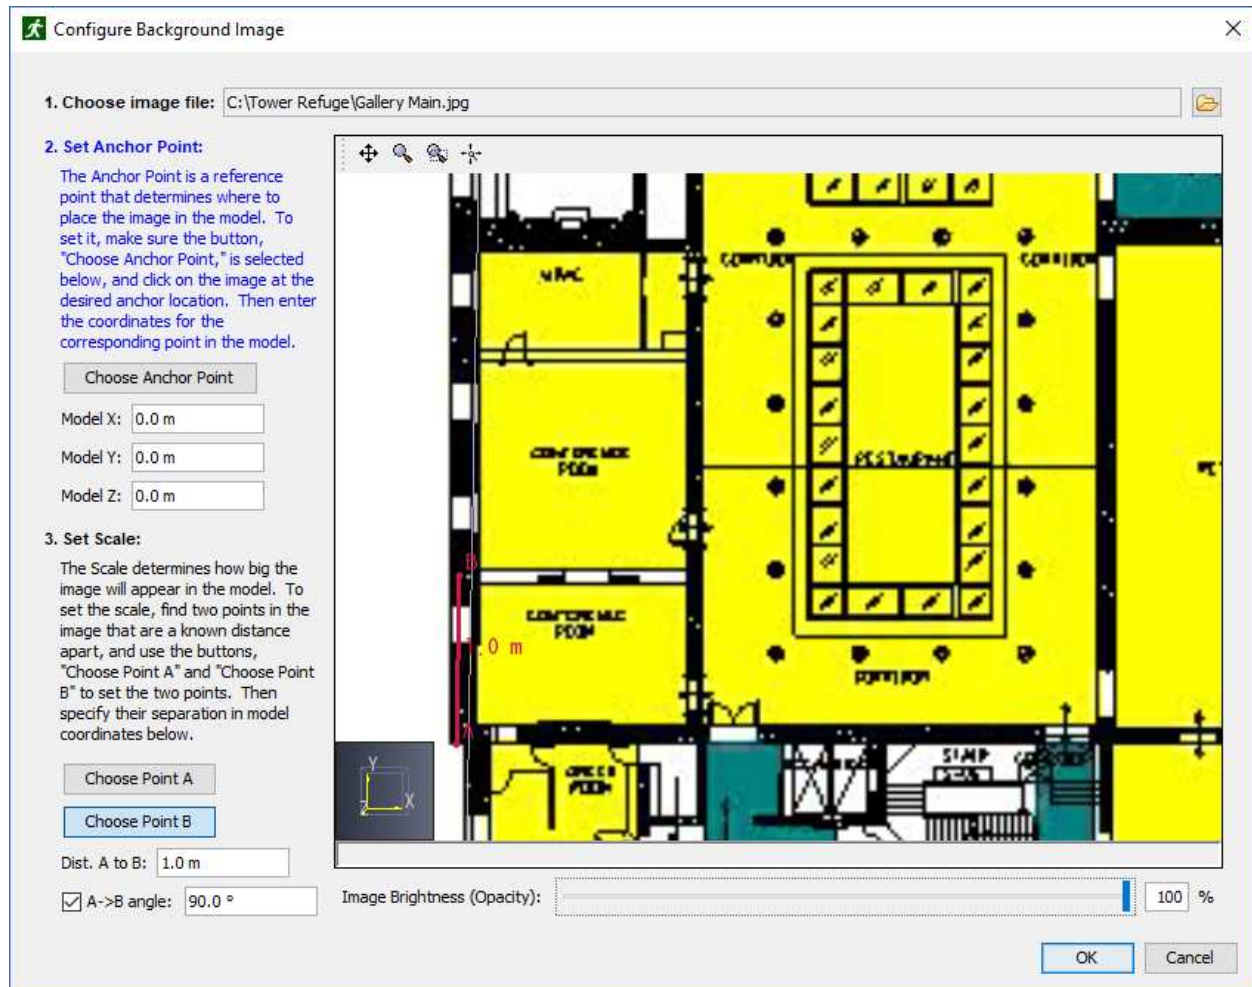

Figure 68. Set scaling points A and B
3. To specify the scaling for the image, two points, A and B, and a distance between them can be specified (Figure 68).